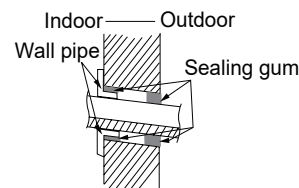

Fig.16
(1) Put the bound pipes in the wall pipe and then make them pass through the wall hole.
(2) Hang the indoor unit on the wall-mounting frame.
(3) Stuff the gap between pipes and wall hole with sealing gum.
(4) Fix the wall pipe.(As show in Fig.16)